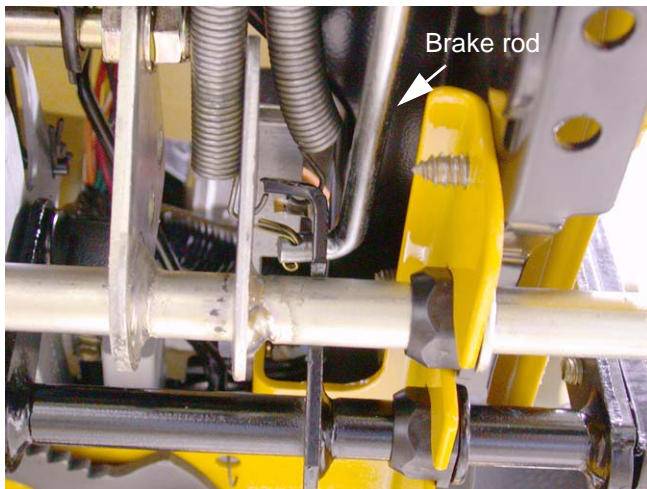

Figure 20.5
20.5. The brake rod must be disconnected to remove the outboard brake pedal shaft bushing. Remove and discard the cotter pin that holds the brake rod to the brake pedal shaft. See Figure 20.5.